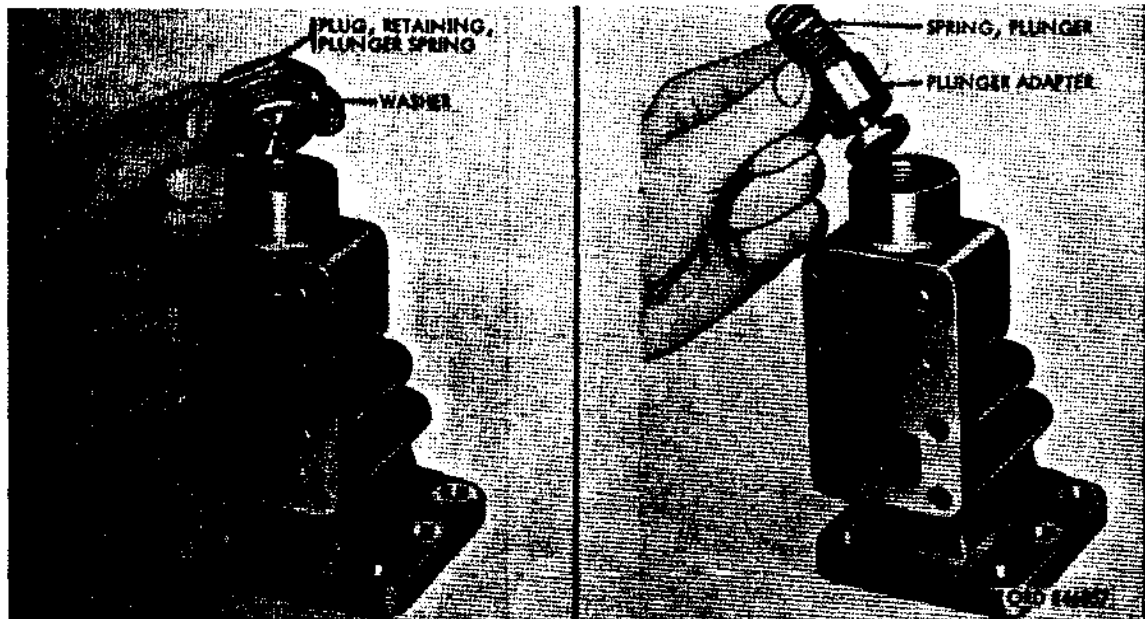

Figure 88. Disassembling control valve adapter
- (1) Remove retaining plug and washer (fig. 88). Remove plunger spring retaining plug and washer from control valve adapter body.
- (2) Remove control valve adapter plunger (fig. 88). Remove plunger spring and control valve adapter plunger from control valve adapter body.
- (1) **Install control valve adapter plunger** (fig. 88). Install control valve adapter plunger in end of control valve adapter body and position plunger spring on adapter plunger.
- (2) **Install retaining plug and washer** (fig. 88). Position washer on plunger spring retaining plug and install plug in end of control valve adapter body. Protect this assembly from wind-blown dust or dirt.